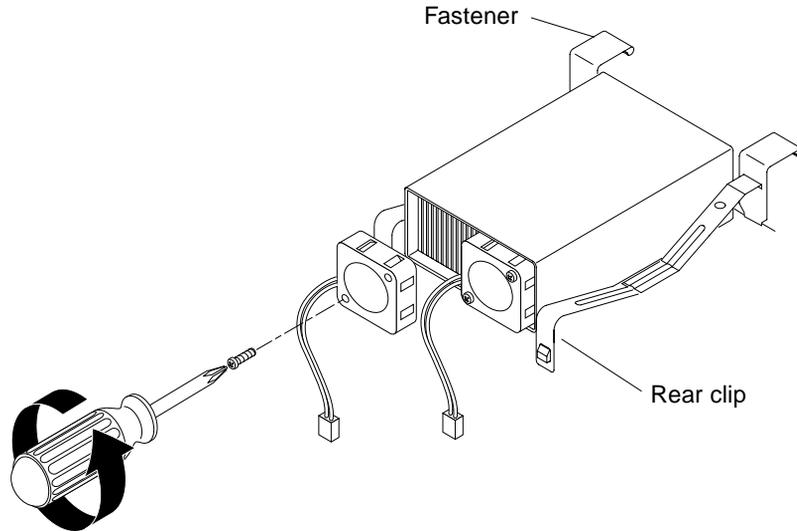

FIGURE 3-7 Removing the fans from the heat sink assemblies
2. **Using a No. 1 Phillips screwdriver, remove the screws securing the heat sink fans (FIGURE 3-7).**
4. Fasten the rear clips (FIGURE 3-7).
5. Push down on the fasteners to clip them to the housing (FIGURE 3-7).